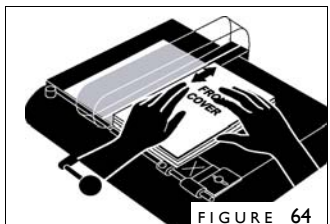

FIGURE 64
5. With the book spine pushed fully and firmly to the left, fold the cover over your book block (figure 64). Starting at the middle, rub down back and forth to secure the cover to the adhesive.